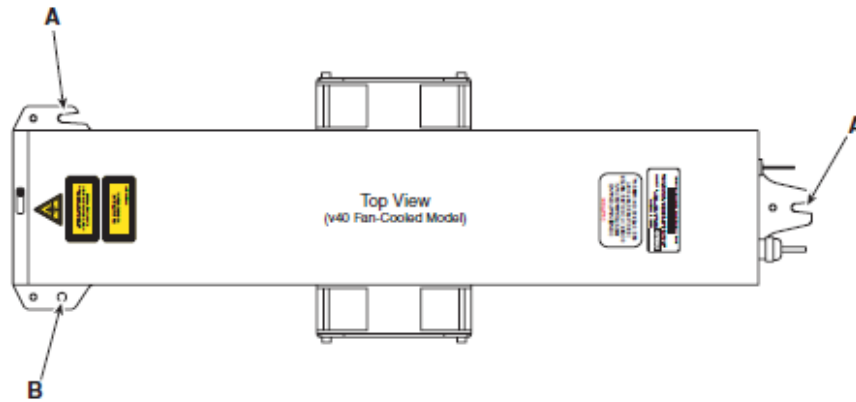

Figure 1-2 Fastening from above
1. Refer to the appropriate outline and mounting drawing for dimensions and then drill and tap three 1/4-20 UNC holes into your mounting surface. These hole locations should correspond to the two slots labeled “A” and the thru hole labeled “B” shown in Figure 1-2.